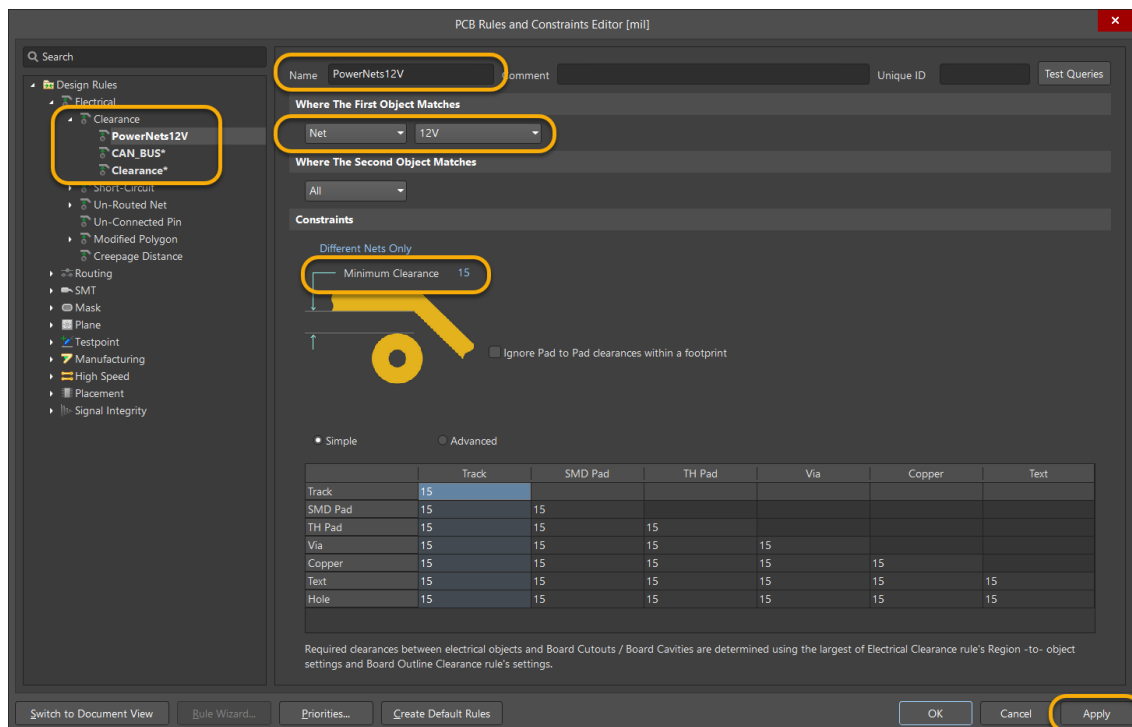

Figure 4. PowerNets clearance rule definition
16. Assign each field according to Figure 4 below.